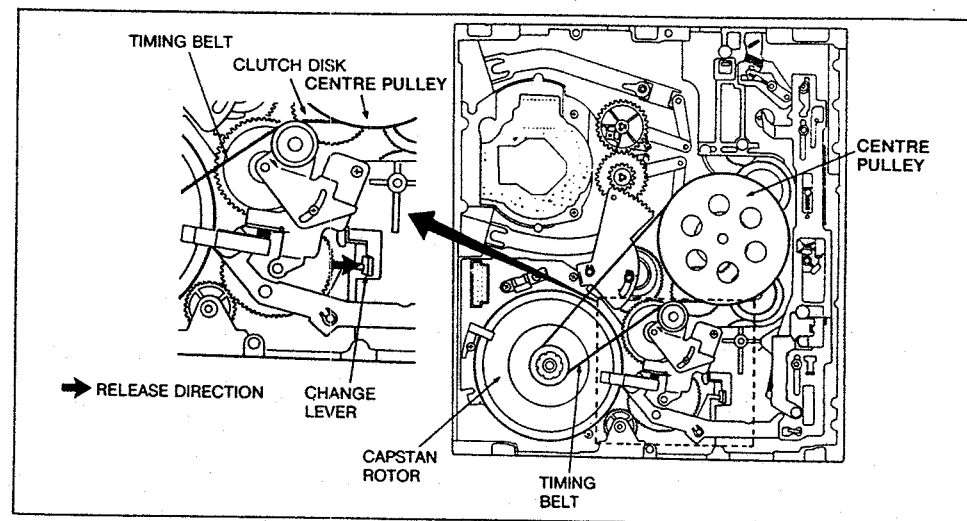

FIG. D24
8. Press the change lever and turn the capstan motor counter clockwise until mechanism is placed to Eject position as shown in FIG. D24.
- (1) Take out the Main AC.
- (2) Release the Change Lever by pushing it to arrow mark direction as shown in FIG. D24.
- (3) Turn the capstan motor to counter clockwise slowly until the Clutch Disk is locked. (Clutch Disk is locked once in one rotation)
- (4) Release the Change Lever again when the Clutch Disk is locked.
- (5) Repeat the (2) and (3) until cassette is ejected.
2. Take out the 5 pin flexible cable from P1503 on the cassette compartment and remove the cassette compartment from chassis. Set the Mechanism to stop (FF/REW) mode as following items 3., 4., 5., 6.
3. Release the change lever by pushing it to arrow mark direction as shown in FIG. D24.